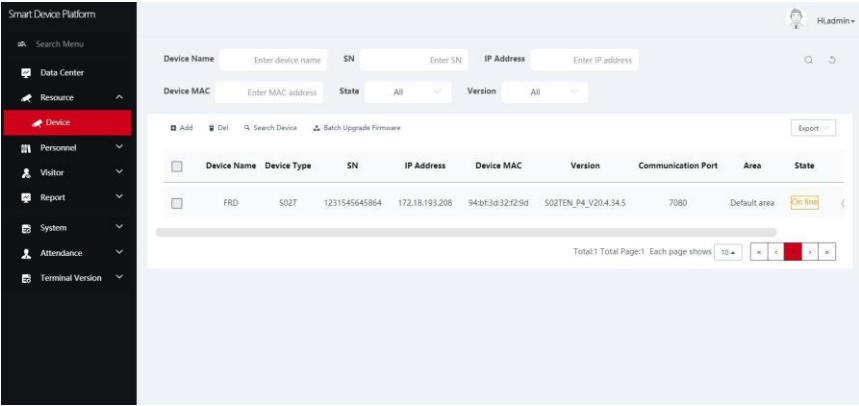

Figure 5-22
Step 1: In the smart device platform interface, click "Resource→Device" to enter the device management interface, as shown in Figure 5-22 below.